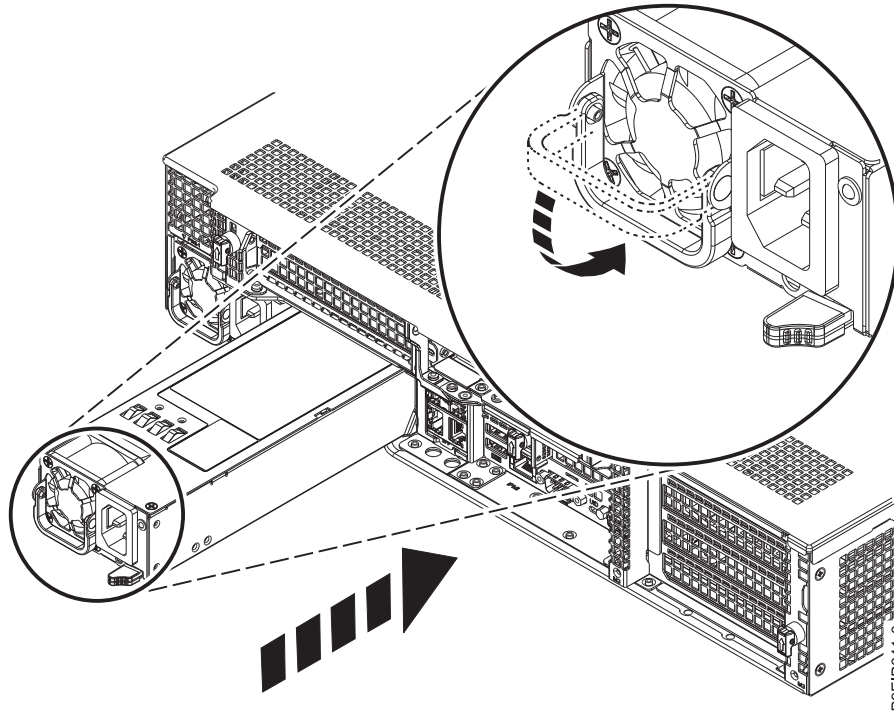

Figure 69. Replacing a power supply in the system
2. Align the power supply with the bay as shown in Figure 69. The fan is on the left; the plug is on the right. Slide the power supply into the system until the latch locks in place.